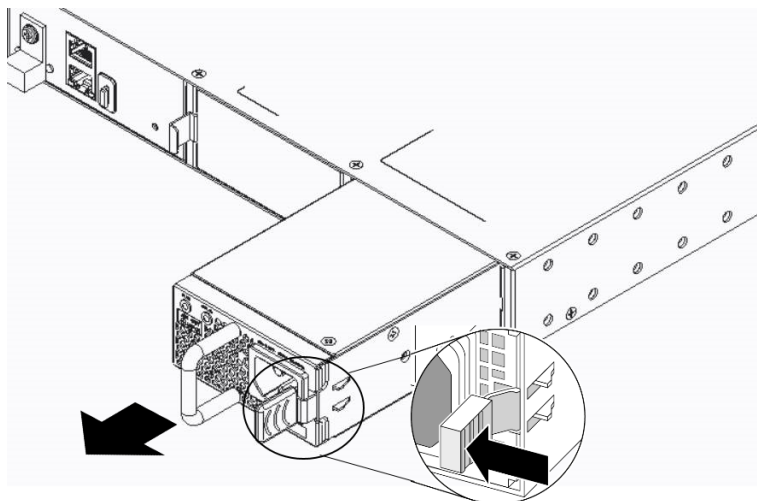

Figure 28: Removing a 800 W AC Power Supply
5. Push the latching tab toward the power supply handle and pull outward on the handle to disengage the power supply internal connectors. See Figure 28.